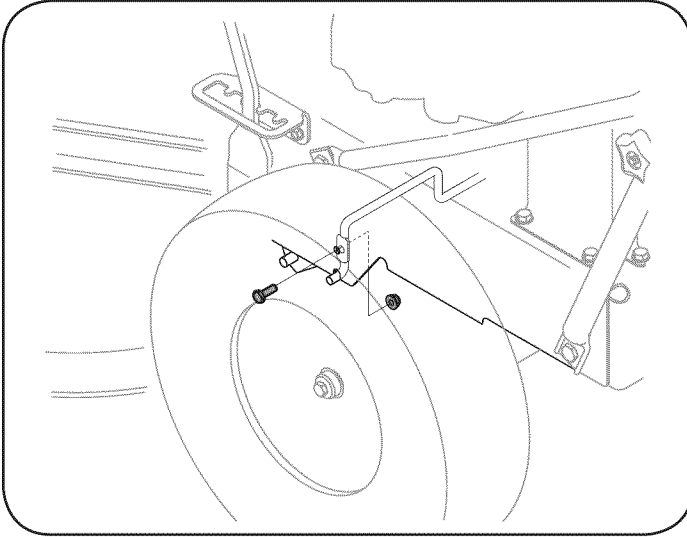

Figure 23
5. Remove the screw and flange nut which secures the belt keeper rod to the left side of the mower's frame. See Figure 23.
3. Remove the belt keeper as instructed earlier in this section. Refer to Figure 23 on page 24.